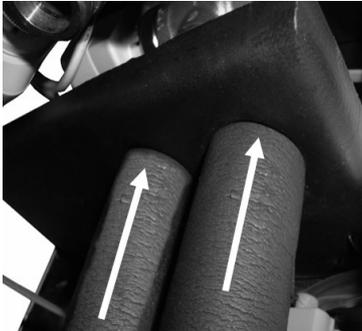

Fig. 41: Fix insulation through the openings of the condensate tray
- Wall-mounted: Push the impermeable insulation from below through the condensate opening on the pipe as far as the upper edge (see Fig. 41).